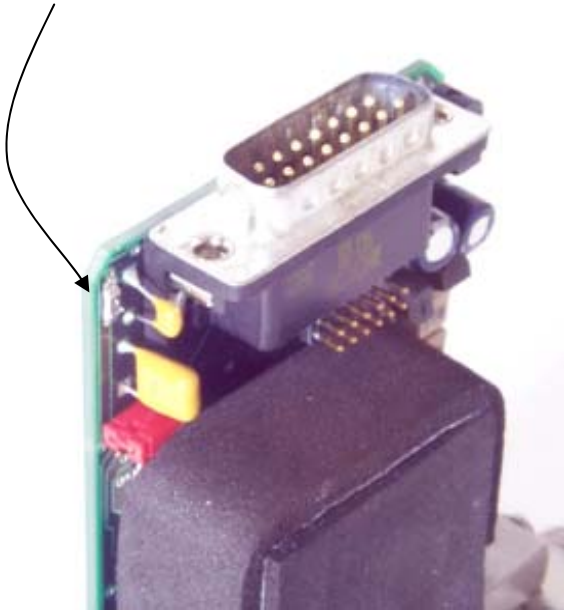

Figure 2-8
If less overall system noise is desired, a jumper may be installed over the pins of JP-1 on the flow measurement card. See Figure 2-8. Covering the pins closest to the "D" connector will activate a resistor-capacitor (RC) filter that has a time constant of one second. This will change the settling time of the indicated flow rate to approximately 4 seconds. Covering the other two pins will change the response time to approx. 1 second. This adjustment will not affect the calibration of the flow meter circuit or the actual flow response to change in command signal (flow controllers). This will only slow down the indicated response (output voltage/current).